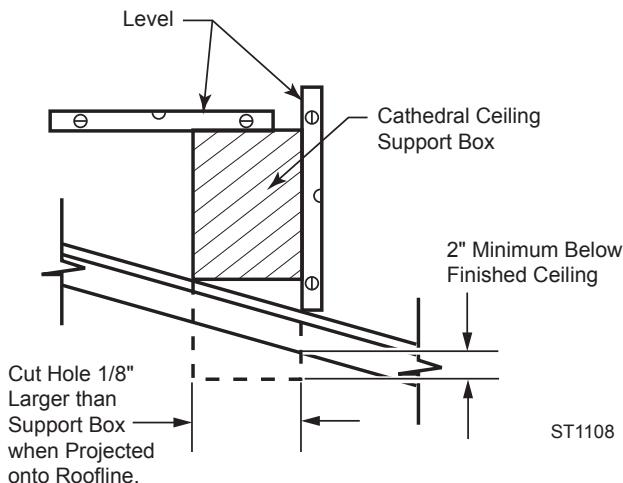

Figure 21 -
- Cut the hole $1/8$ " larger than the support box outline. *Figure 21*
- Lower the support box through the hole in the roof until the bottom of the box extends at least 2" (mm) below the ceiling. *Figure 21*. Align the support box vertically and horizontally using a level. Temporarily tack the support box in place through the inside walls and into the roof sheeting.